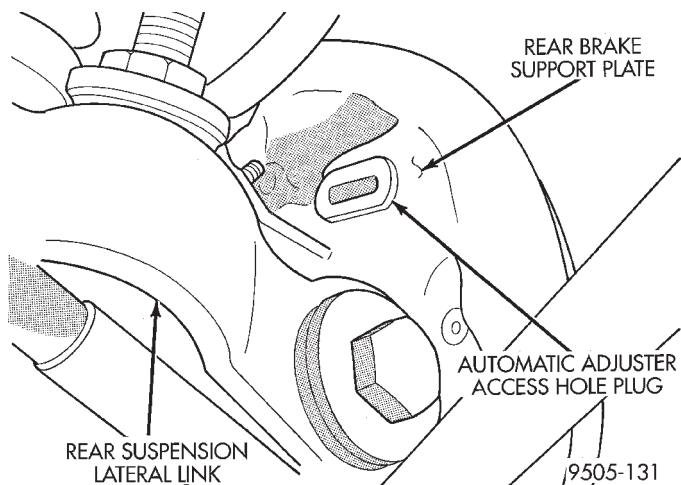

Fig. 60 Adjuster Access Hole Plug
(3) Remove the rubber plug (Fig. 60) from the top of brake support plate.